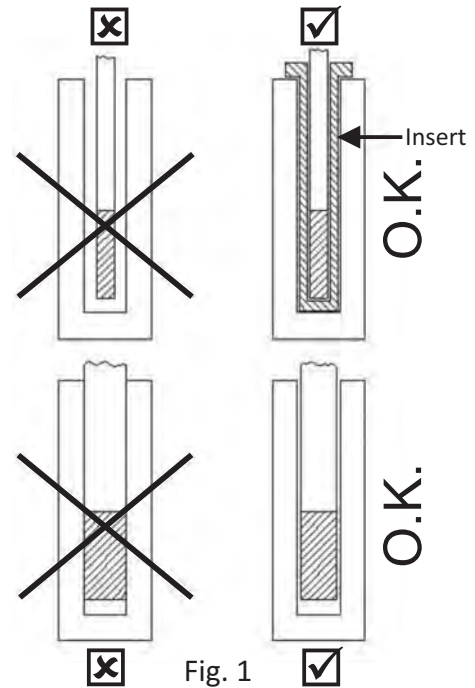

Fig. 1
- The diameter of the drilling in the dry block must be a little bit higher than the temperature probe's diameter (see Fig. 1), as follows: